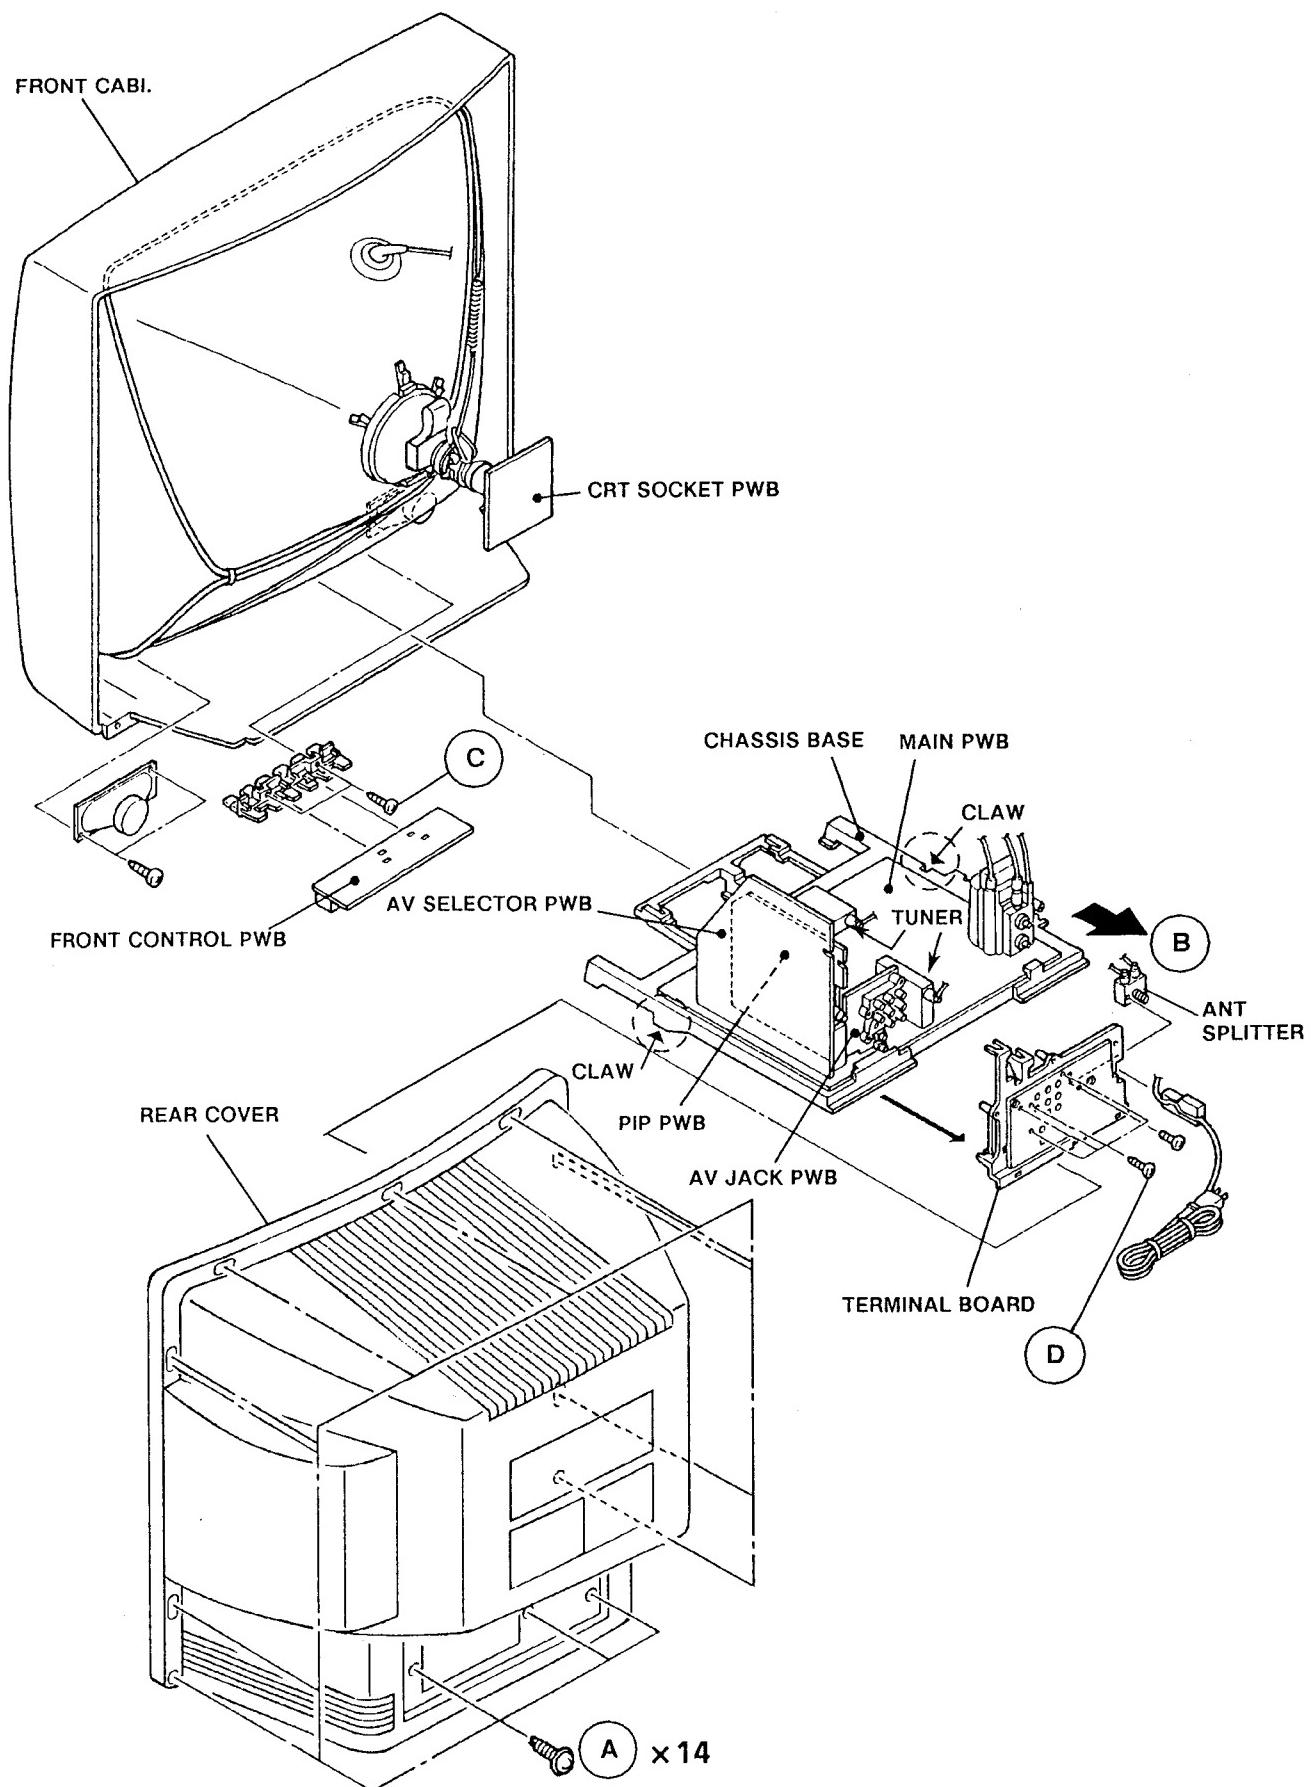

Fig. 2
2. Remove the 14 screws marked **(A)** as shown in Fig. 2.
2. Draw the chassis backward along the rail in the arrow direction marked **(B)** as shown in the Fig. 2.
1. Remove the 2 screws marked **(C)** as shown in Fig. 2.
1. Remove the 4 screws marked **(D)** as shown in Fig. 2.